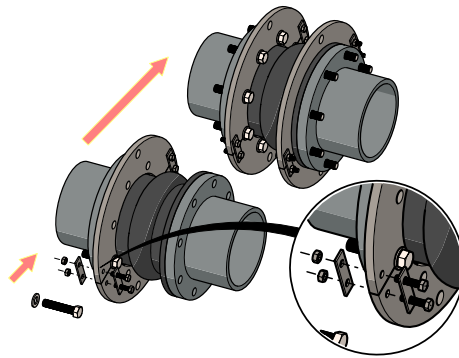

Figure 15: Secure Retaining Rings to Assembly
Step 4: Secure the ITR plates in place with the flange bolting and the provided mend plates. Position the flange bolt head and washer against the ITR plate as shown in Figure 15. Washers must be used at least at the split in the ITR plate or else flange leakage may occur.